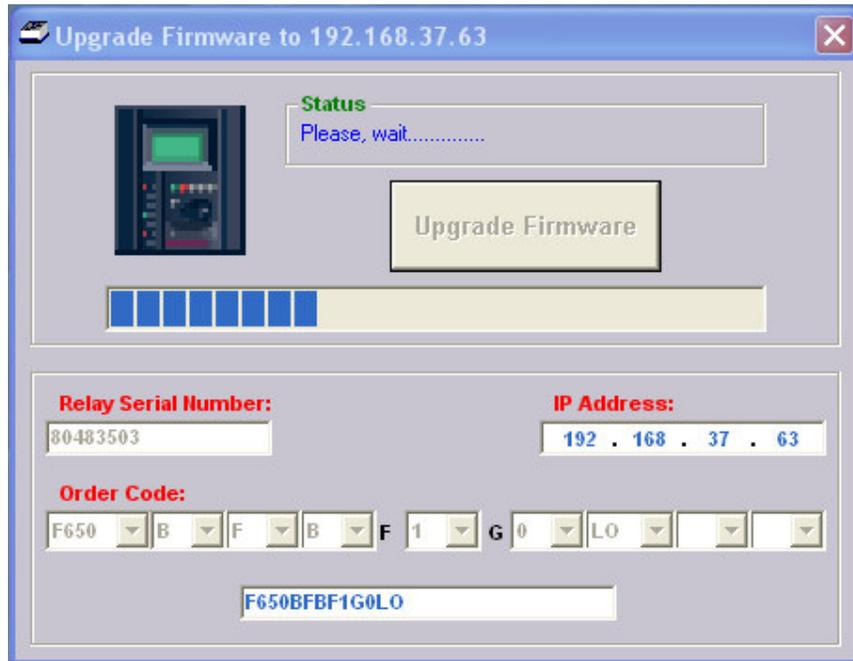

FIGURE 9-32: FIRMWARE FILE SELECTION
9.3.2.10 When the files transfer is finished, a message is displayed committing to wait sometime before resetting the unit in order to start working with the new firmware version in the relay (Figure 9-32).